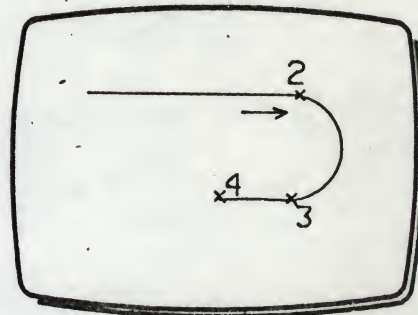

Fig 2
- 7 Move XY to move the dynamic cursor to (3) in Fig 2. Try to make an exact semi-circle.
- 10 Move XY to move the dynamic cursor in a straight line from (3) to (4) in Fig 2.